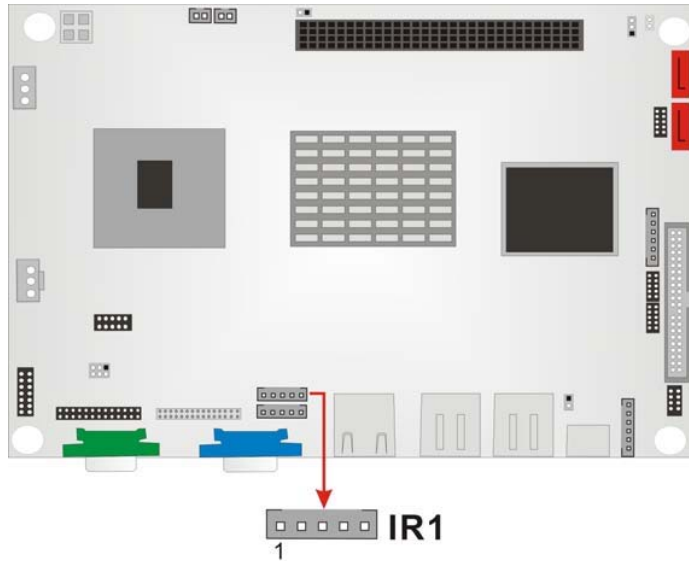

Figure 3-14: IR Interface Connector Location
- CN Location:** See Figure 3-14